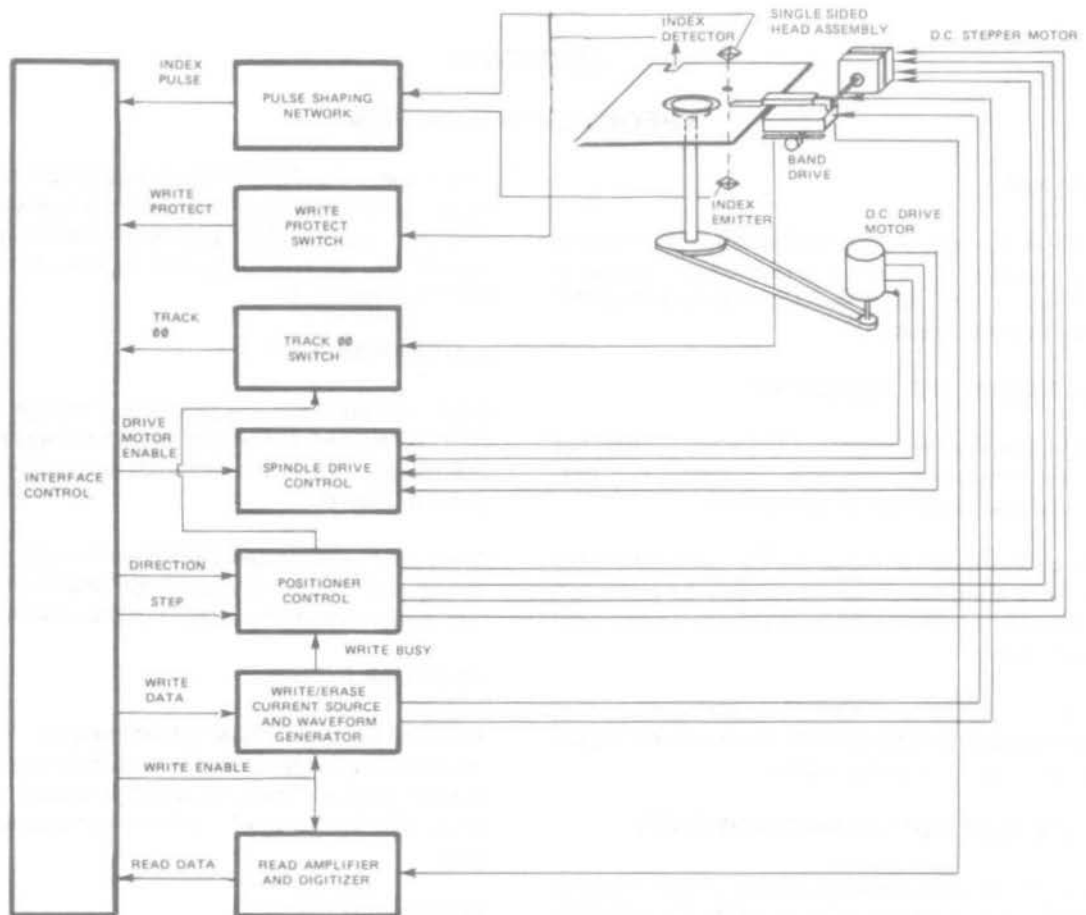

FIGURE 5. FUNCTIONAL BLOCK DIAGRAM
3. The Jumper Wire between pin 32 of J1 and the DS4 connection (see Figure 5) is used on all Drives.
Figure 5 is a functional block diagram of the Disk Drive and should be referred to in conjunction with the following discussion:
All signals required to control the data electronics are provided by the user system and are shown in the Block Diagram (Figure 5). These control signals are:
Referring to Figure 5, it can be seen that the Write Electronics consists of a Write/Erase Current Source and Write Waveform Generator, Erase Current Source and Trim Erase Control Logic.